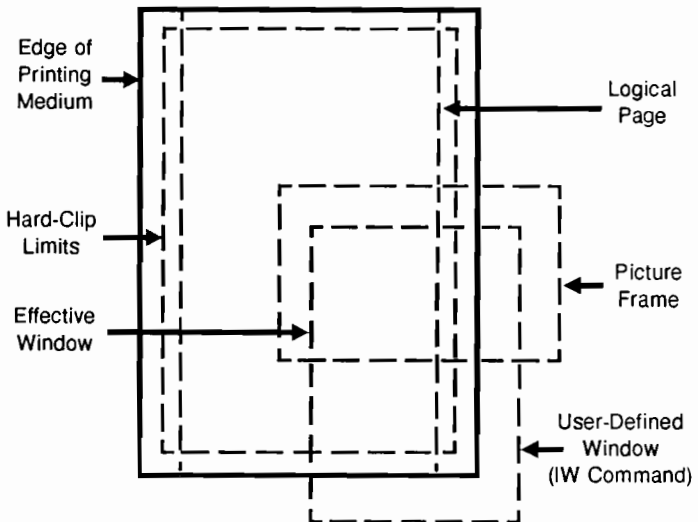

Figure 15-6.
- Specify the PCL Picture Frame dimensions using the $E_C*c#X$ (Picture Frame Horizontal Size) and $E_C*c#Y$ (Picture Frame Vertical Size) commands. These commands determine the boundary of the window in which you place or draw your image. The PCL Picture Frame represents the maximum boundary for your HP-GL/2 drawing (see Figure 15-6).